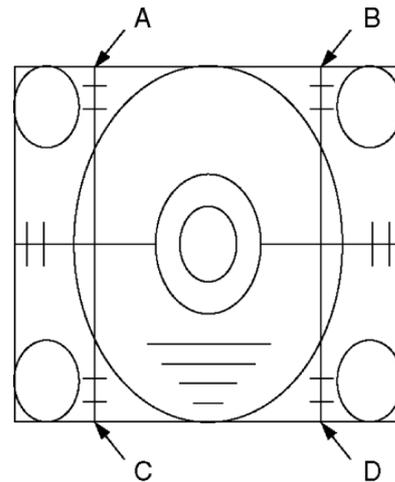

Fig. 2
3. Adjust V-AMP (100i / 4:3) so that B, D (Fig. 2) is 2.1 ± 0.1 .
3. Adjust V-AMP (120i / 4:3) so that B, D (Fig. 2) is 2.1 ± 0.1 .
3. Adjust V-AMP (50p / 4:3) so that B, D (Fig. 2) is 2.1 ± 0.1 .
3. Adjust V-AMP (60p / 4:3) so that B, D (Fig. 2) is 2.1 ± 0.1 .